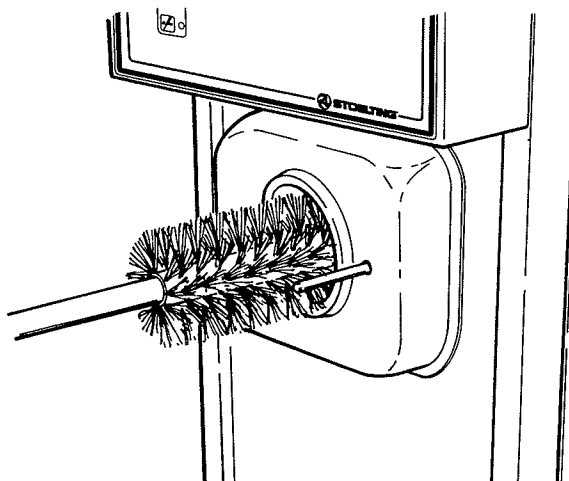

Figure 37. Freezer Barrel Cleaning
- D. Wash inside of freezer barrel using a clean cloth dipped in a **warm**, mild detergent solution. Use the small brush to clean the drive area (rear of freezer barrel). Use the large brush to clean the inside of barrel. (See Fig. 37.) Remove detergent solution from the barrel using a clean rinse cloth.